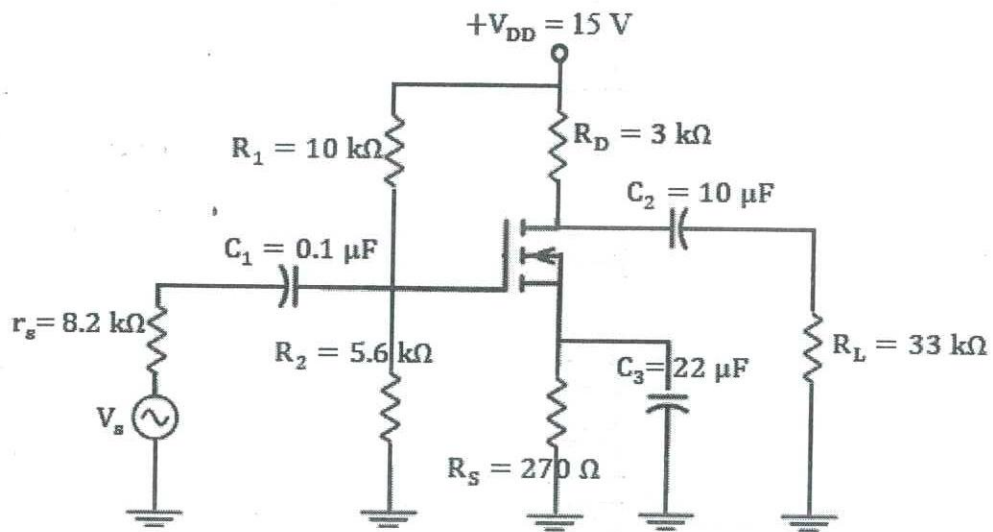

Figure Q3: N-type eMOSFET amplifier implied with the voltage divider bias method.
c) Consider the N-type eMOSFET amplifier implied with the voltage divider bias method, given in Figure Q3. Answer the following questions assuming that  $V_{TH} = 1.8\text{ V}$ ,  $\beta = 0.9\text{ mA/V}^2$ ,  $r_d = 60\text{ k}\Omega$  and  $I_{D(ON)} = 2.5\text{ mA}$ .